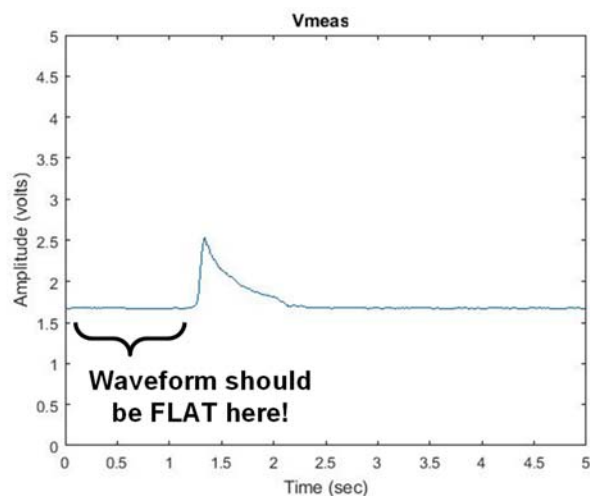

Fig. 5: The MATLAB plot of V_{meas} should look something like this.
- Hopefully you will see a figure appear that looks something like Fig. 5.